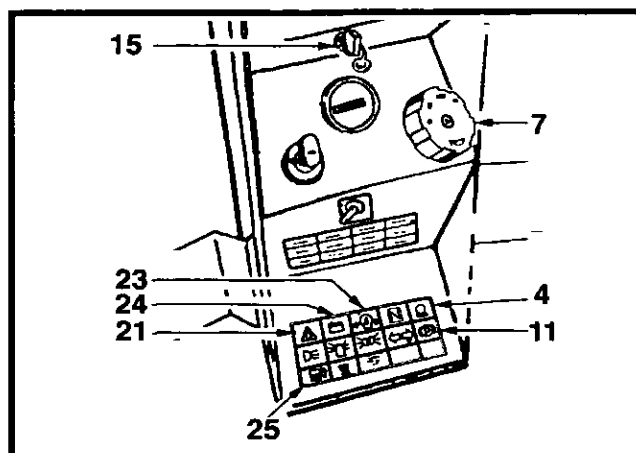
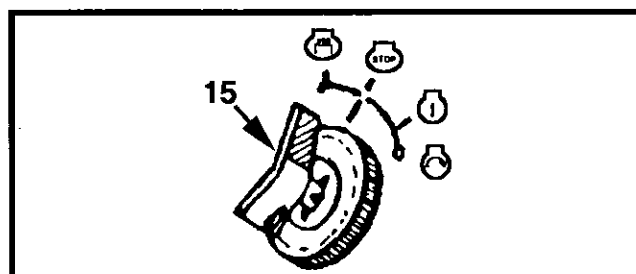

Figure 4-7 Indicator Lights
Figure 4-8 Ignition Switch
The red brake on indicator, (4, Figure 4-7), will illuminate when the brake is applied.
7. Turn ignition switch key (15, Figure 4-8) to **I** position, and verify that the following **RED** indicator lights (Figure 4-7) are all illuminated.
10. Apply parking brake control when the parking brake light (4, Figure 4-7), should illuminate. Release the parking brake when the parking brake light should extinguish.